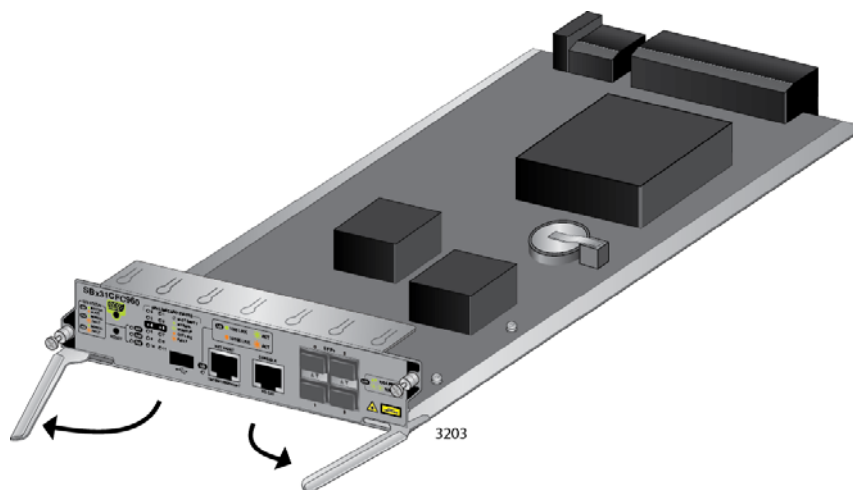

Figure 77. Opening the Locking Handles on the AT-SBx31CFC960 Controller Fabric Card
5. Move the locking handles on the front panel to the open position, as shown in Figure 77.